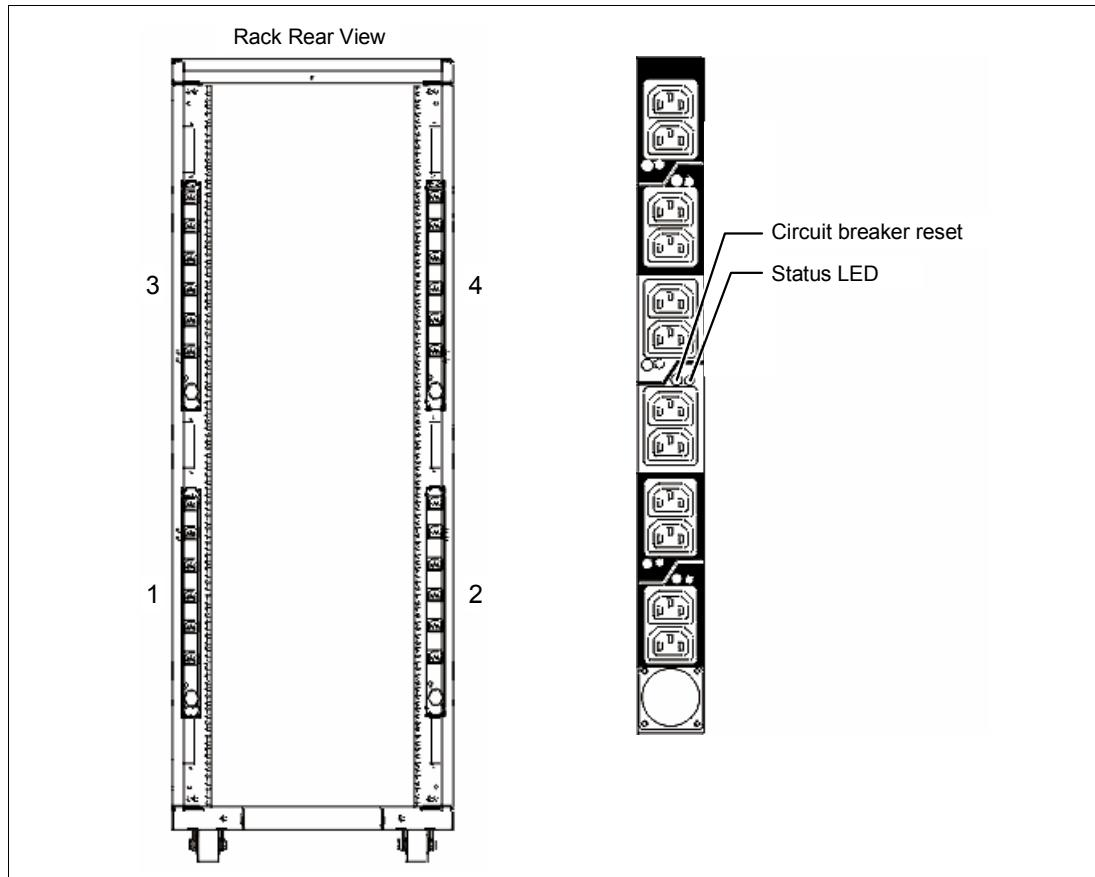

Figure 1-4 PDU placement and PDU view
- ▶ Up to four power distribution units (PDUs) can be mounted in the PDU bays (Figure 1-4 on page 25), but others can fit inside the rack. See 1.13.7, "The AC power distribution unit and rack content" on page 24.
Four PDUs can be mounted vertically in the back of the T00 and T42 racks. See Figure 1-4 for the placement of the four vertically mounted PDUs. In the rear of the rack, two additional PDUs can be installed horizontally in the T00 rack and three in the T42 rack. The four vertical mounting locations will be filled first in the T00 and T42 racks. Mounting PDUs horizontally consumes 1U per PDU and reduces the space available for other racked components. When mounting PDUs horizontally, it is best to use fillers in the EIA units occupied by these PDUs to facilitate proper air-flow and ventilation in the rack.